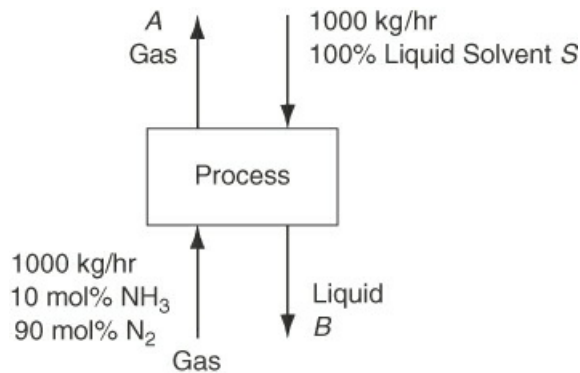

Figure P3.4.26
- **3.4.26** Consider the following process for recovering NH_3 from a gas stream composed of N_2 and NH_3 (see Figure P3.4.26). Flowing upward through the process is the gas stream, which can contain NH_3 and N_2 but *not* solvent S, and flowing downward through the device is a liquid stream which can contain NH_3 and liquid S but *not* N_2 . The weight fraction of NH_3 in the gas stream A leaving the process is related to the weight fraction of NH_3 in the liquid stream B leaving the process by the following empirical relationship:
Given the data shown in Figure P3.4.26, calculate the flow rates and compositions of streams A and B.